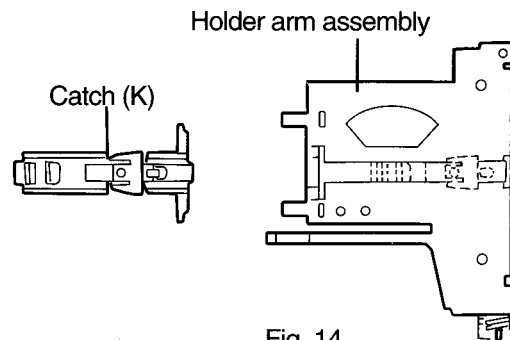

Fig. 14
4. Set the catch (K) to the holder arm assembly as shown in Fig. 14.